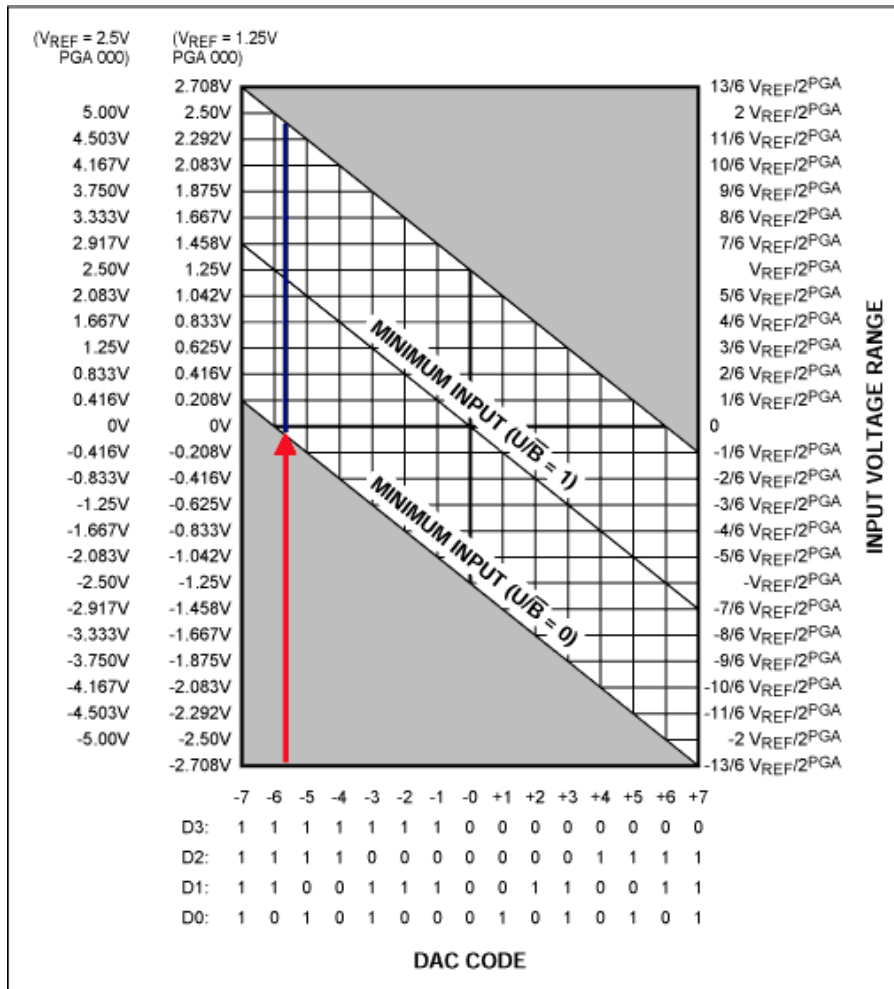

Figure 13. MAX1402 input voltage-range setting.
**Figure 13** establishes the correct input voltage range, which is defined by the U/B-bar bit, Vref, PGA, and DAC settings. No offset action is performed when the DAC code equals "0000." With Vref = 2.5V, for example, a full scale of 0V to 5V can be accommodated by setting the DAC to "1110," the PGA to "000," and the U/B-bar bit to "0."